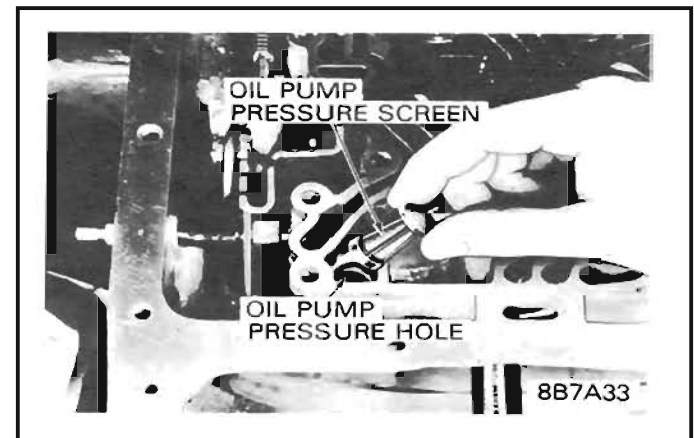

Figure 24 Pump Screen Removal
22. Remove oil pump pressure screen from the case. Inspect for damage. Clean or replace as necessary. *See Figure 24.*